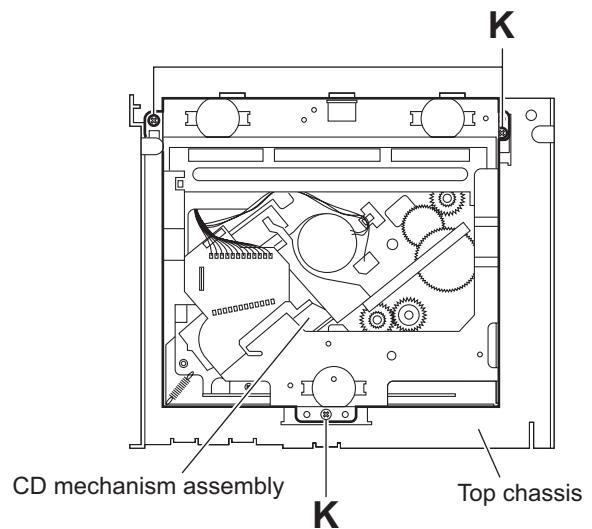

Fig.9
2.1.8 Removing the CD mechanism assembly (See Fig.9)